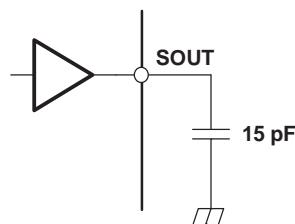

Figure 4. Test Circuit for t_{r0} , t_{f0} , t_{pd0} , t_{pd1}
(1) See Figure 4. Defined as from 10% to 90%
(3) See Figure 4, Figure 16